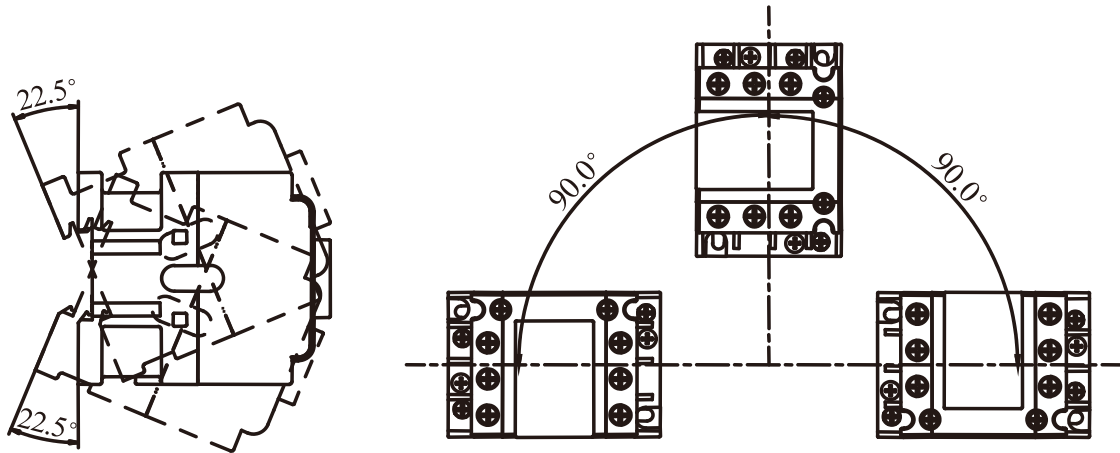

Figure 4 Installation requirements
- See Figure 4 for product installation requirements.